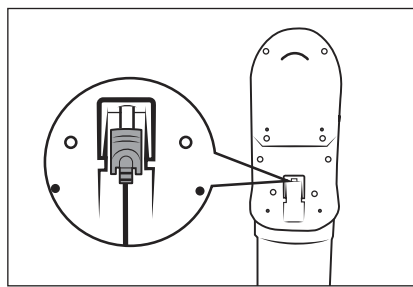

Fig. 8
- The vacuum cleaner can also be charged directly via the mains adapter **10**. To do this, remove the barrel plug **11** from the wall bracket **18** by turning it slightly and insert it into the charging socket **3** on the underside of the appliance (see Fig. 8).